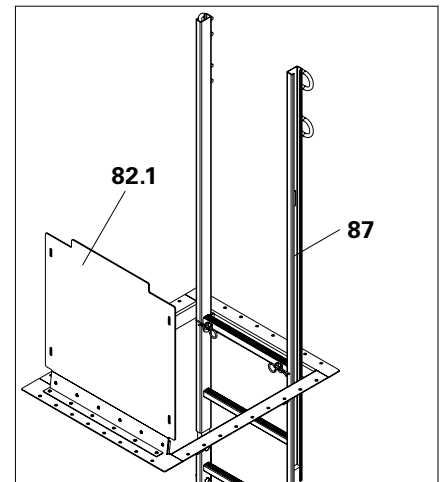

Fig. B5.12
- Lift pre-assembled ladders (85 + 87) with the crane into the hatch and lower so that the top rung of the ladder lies in the U-profile of the hatch. (Fig. B5.12)